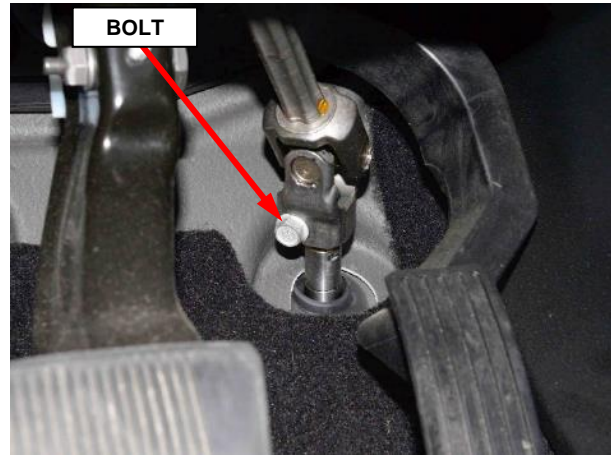

Figure 3 – Intermediate Shaft Bolt
7. Remove intermediate shaft pinch bolt and separate the intermediate shaft from the steering gear pinion shaft. **DISCARD** the pinch bolt, it is not to be reused (Figure 3).